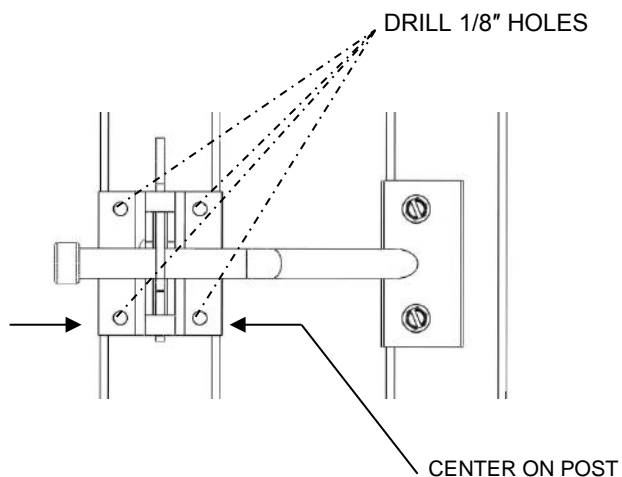

FIG. 7.19
7.8.7. Clip the latch to the finger catch and center on the step or ramp vertical square tube. Mark center of the holes with pencil. Drill four 1/8" holes through one side of the vertical handrail tube (FIG. 7.19).